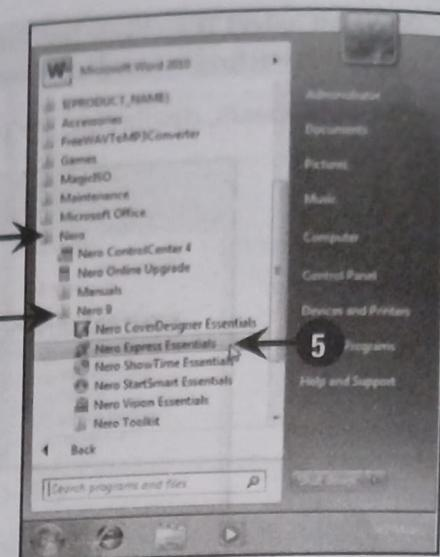

Fig.HD-8.15
3. Select **Nero** from the list (Fig.HD-8.15). A drop-down list appears (Fig.HD-8.15).
4. Select **Nero 9** from the drop-down list (Fig.HD-8.15). Another drop-down list under Nero 9 appears.
5. Select **Nero Express Essentials** from the drop-down list, as shown in Fig.HD-8.15;
3. Select Nero from the list (Fig.HD-8.15). A drop-down list appears (Fig.HD-8.15).
4. Select Nero 9 from the drop-down list (Fig.HD-8.15). Another drop-down list under Nero 9 appears (Fig.HD-8.15).
5. Select Nero Express Essentials from the drop-down list (Fig.HD-8.15).